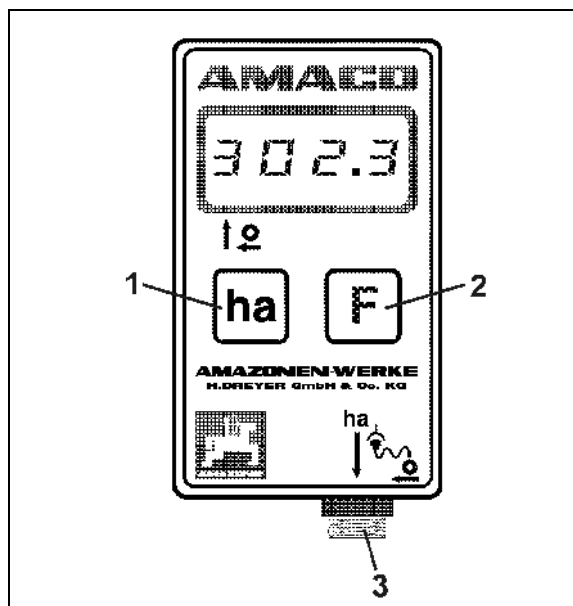

Fig. 3
Key **ha** (Fig. 3/1).
Key **F** (Fig. 3/2)
- **Connection Sensor (Fig. 3/3).**